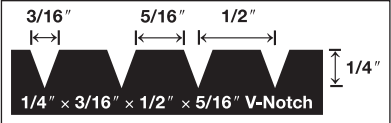

Figure 2
- 3/16" x 1/4" x 5/16" (6 mm x 13 mm x 8 mm) V-Notch trowel (Figure 2)